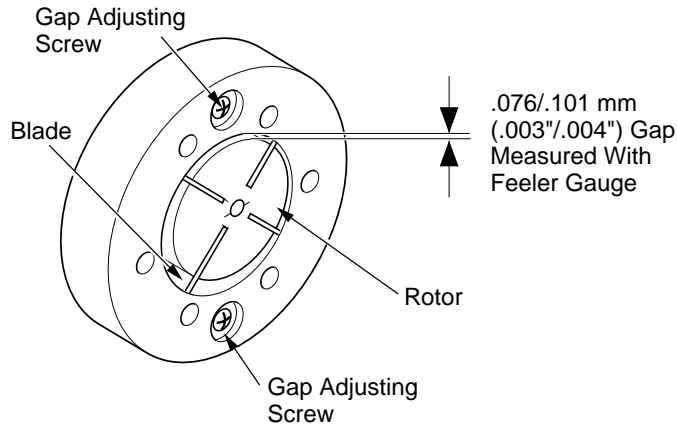

Figure 24 - Gap Adjusting Screw Locations
9. Check gap on rotor. Adjust to .076/.101 mm (.003"/.004") if needed (see Figure 24, page 13).